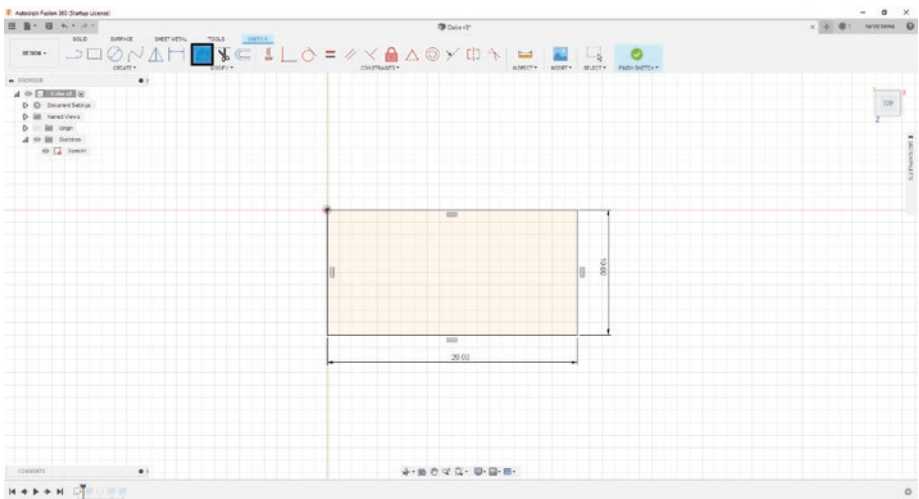

Figure 3-75. *Add fillet*
31. Add a fillet by going to the “MODIFY” tab and clicking the Fillet button. See Figure 3-75.